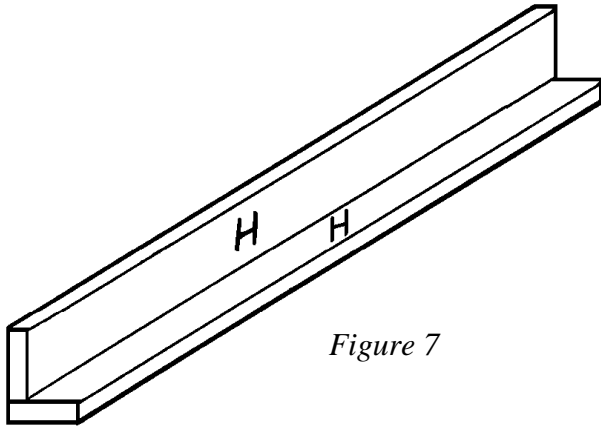

Figure 7
- Start by gluing two legs (H) together at a 90-degree angle, as shown in *Figure 7*. Secure with 1-1/4" screws spaced about 6" apart along the joint.